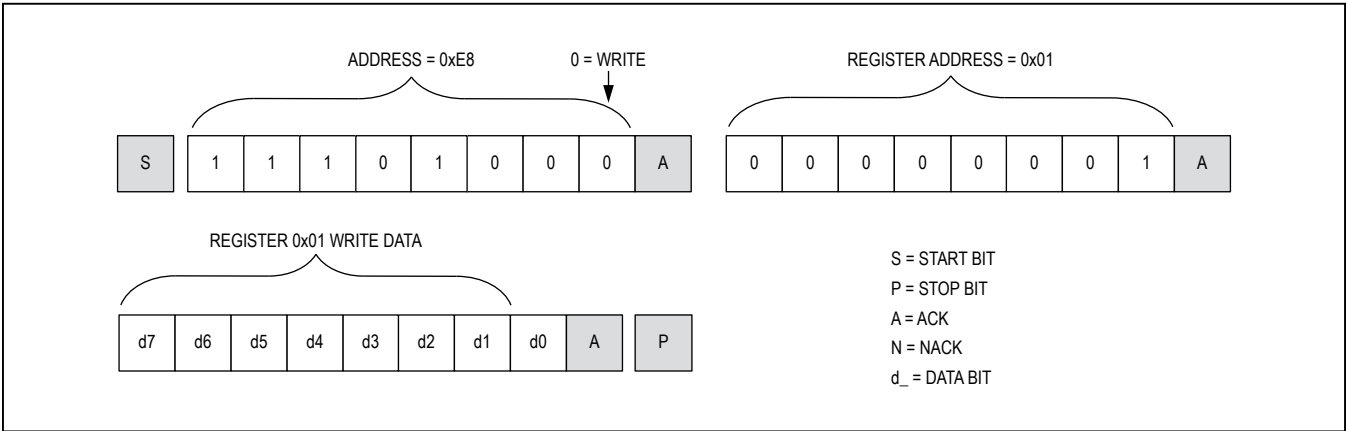
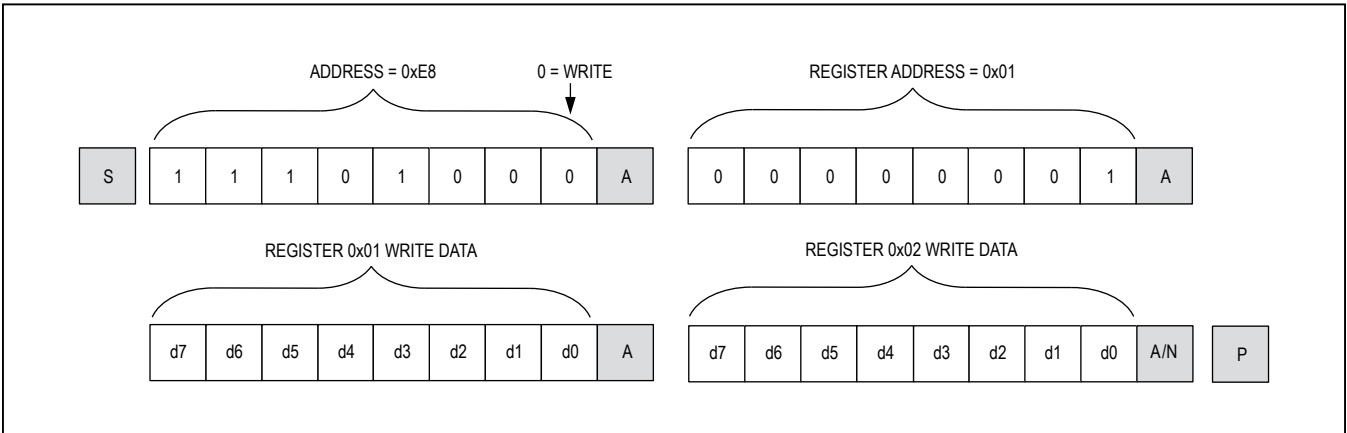
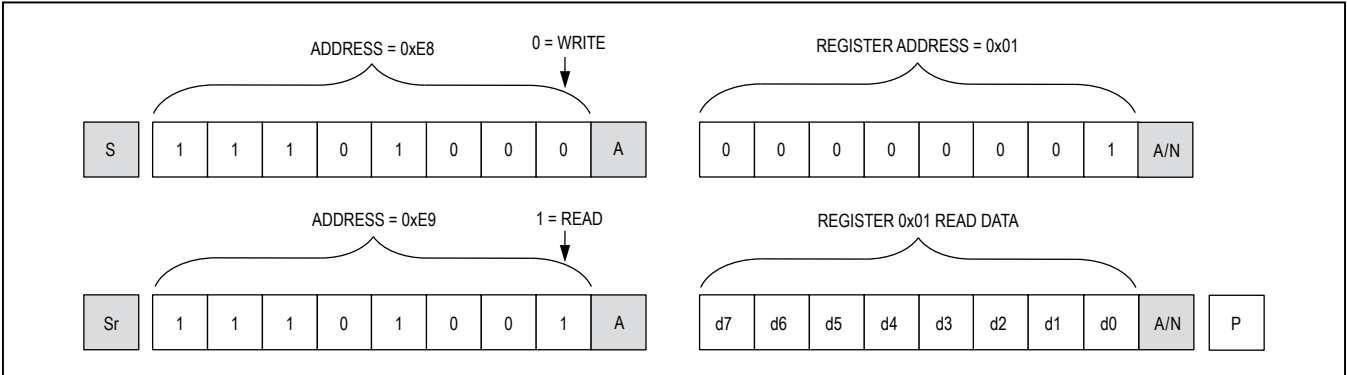

Figure 10. Format for I²C Write
Figure 11. Format for Writing to Multiple Registers
Figure 12. Format for Reads (Repeated START)
device is to be written by the next byte, if received. If a STOP (P) condition is detected after the register address is received, the device takes no further action beyond storing the register address. Any bytes received after the register address are data bytes. The first data byte goes into the register selected by the register address, with subsequent data bytes going into subsequent registers (Figure 10). If multiple data bytes are transmitted before a STOP condition, these bytes are stored in subsequent registers because the register addresses autoincrement (Figure 11).
The device is read using the internally stored register address as an address pointer, the same way the stored register address is used as an address pointer for a write. The pointer autoincrements after each data byte is read using the same rules for a write. Therefore, a read is initiated by first configuring the register address by performing a write (Figure 11). The master can now read consecutive bytes from the device, with the first data byte being read from the register address pointed to by the previously written register address (Figure 12). Once the master sounds a NACK, the MAX14724 stops sending valid data.